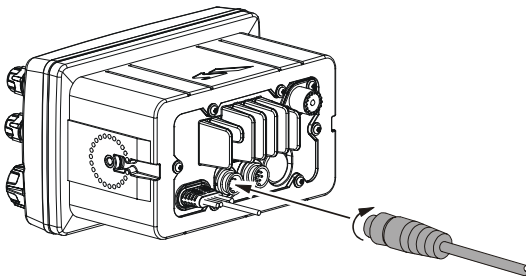

Figure 2
4. Fasten the brackets to the sides of the transceiver with the lock washer nut combination; so that the mounting screw base faces the mounting surface (see Figure 2).
1. Connect the Routing Cable to the one of the Remote Mic eight pin connectors on the rear panel, then tighten the Cable Nut (See Figure 2).